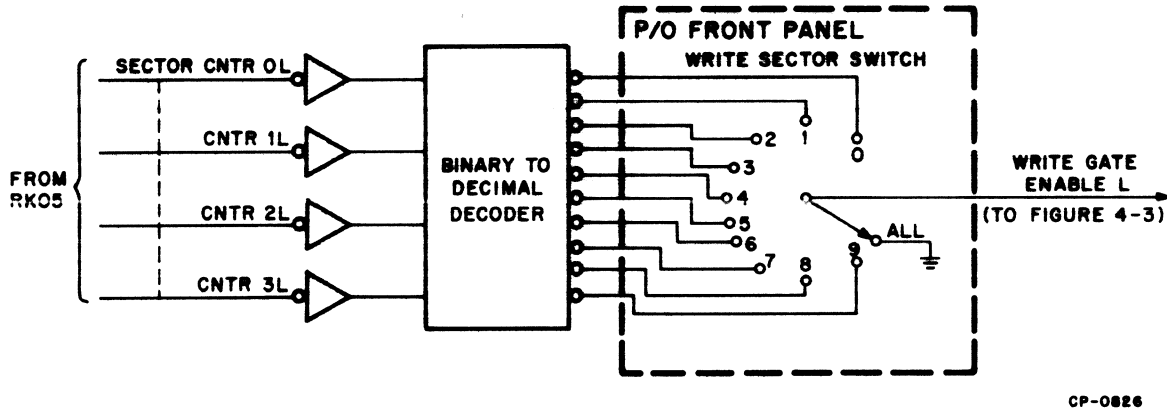

Figure 4-2 Sector Decoder and Write Section Switch Diagram
4.3.1.1 Sector Decoder and Write Sector Switch – The sector decoder (Figure 4-2) decodes the SECTOR CNTR (0-3) inputs and asserts one of ten lines to the Write Sector switch. When the sector decoded corresponds to the position of the Write Sector switch, the WRITE GATE ENABLE L line asserts. If the Write Sector switch is set to ALL, WRITE GATE ENABLE L is always asserted.